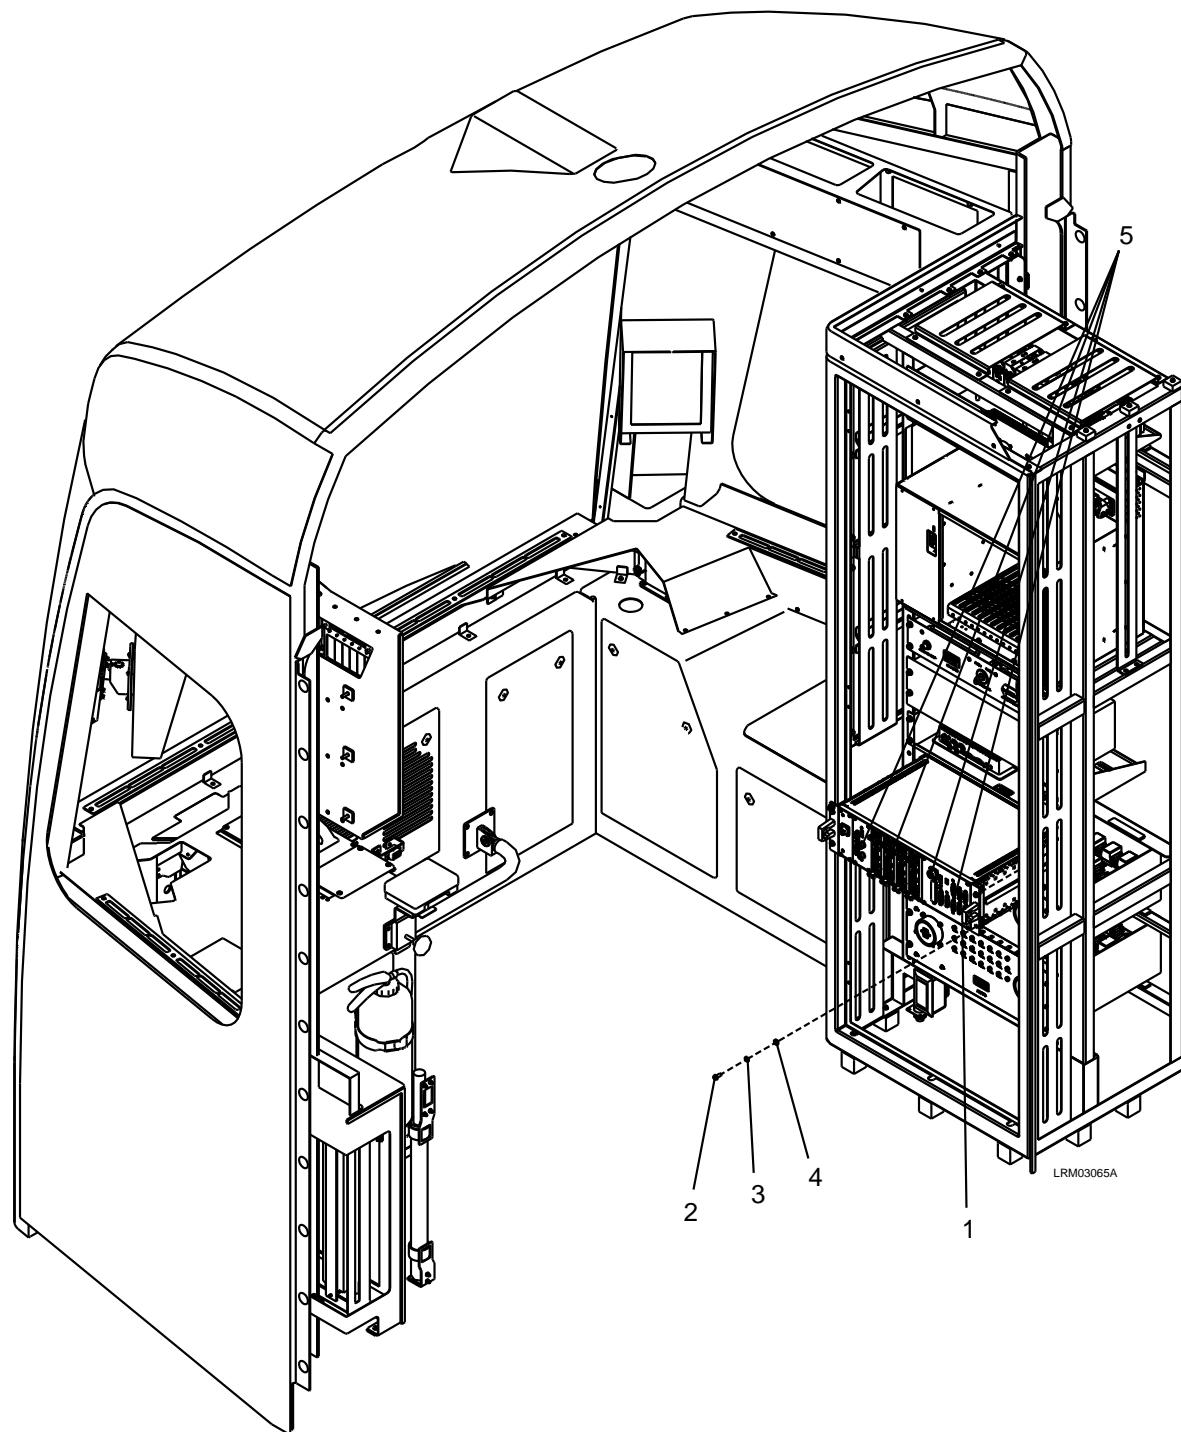

Figure 7-46: TCN Controller (B-Unit)
2. Disconnect the electrical connectors (5) to the TCN Controller (B-Unit) (1). See Figure 7-46.
3. Remove the four M6 x 16 screws (2), M6 lock washers (3), and M6 plain washers (4).
4. Carefully remove the TCN Controller (B-Unit) (1).